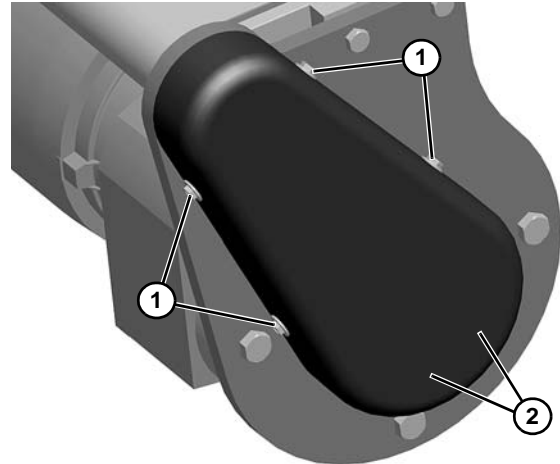

Figure 19
- Loosen four screws (**Figure 19, item 1**) and remove timing belt covers (**Figure 19, item 2**).